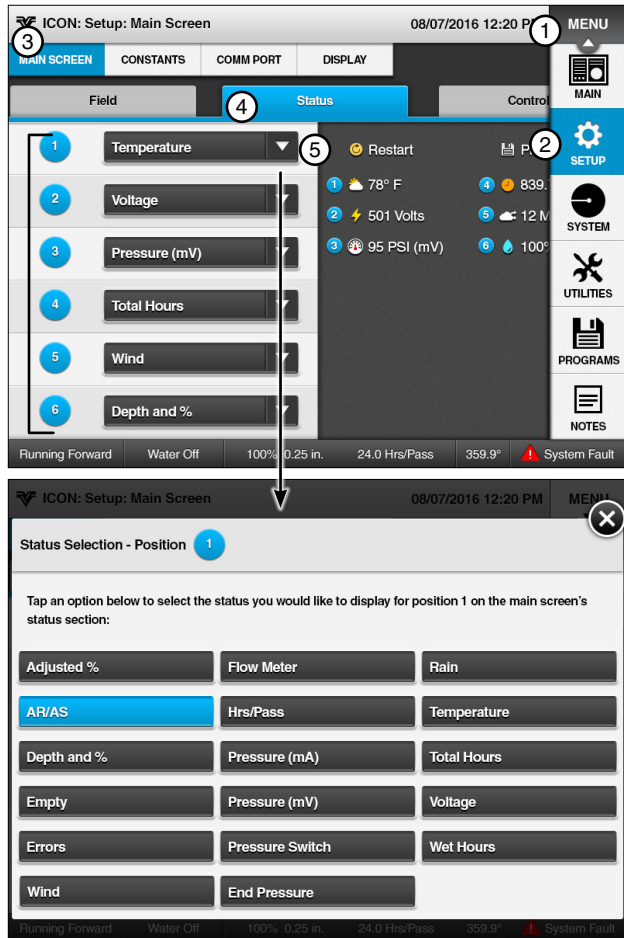

Figure 34-1 1. Menu 4. Status
2. On the Status screen select up to six statuses that you want to appear on the Main Screen. The Status Drop-Down Menu number relates to the location of the status on the Main Screen. See Figure 34-1.